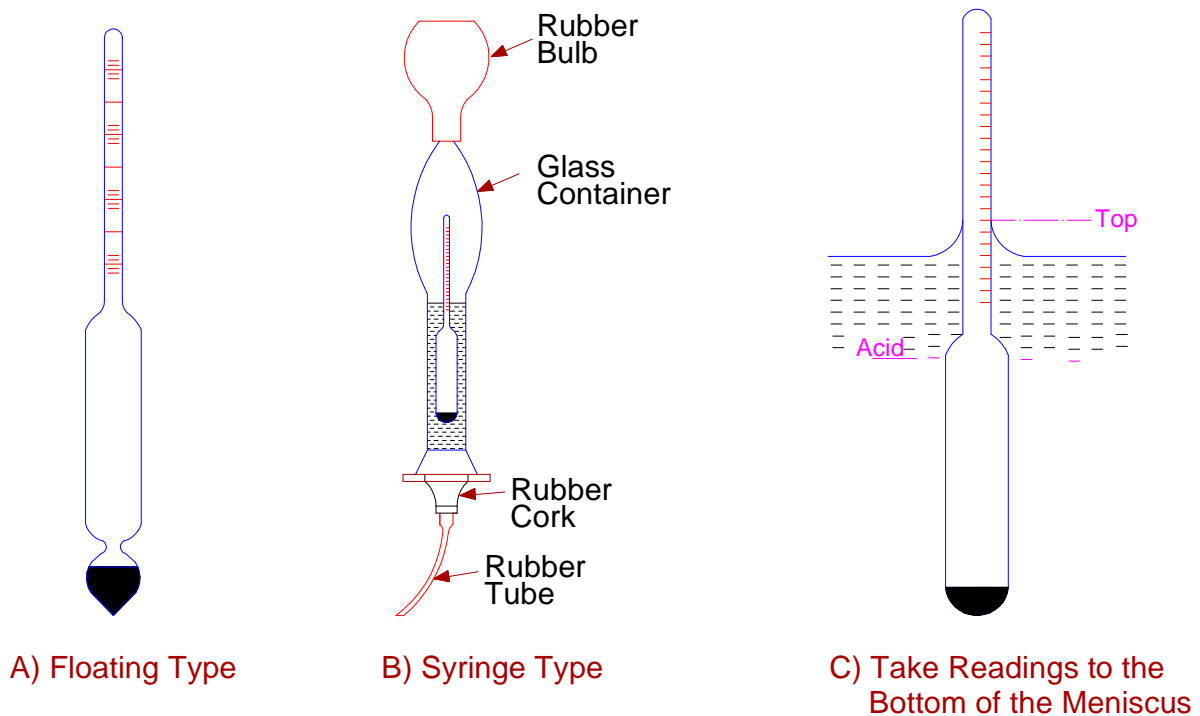

Fig: 1.4 HYDROMETER
- (a) The floating hydrometer, (Fig. 1.4.a), used with open type cells. It consists of a glass tube with a calibrated scale and a weighted bulb at the lower end. It is placed in the electrolyte of the cell, and sinks more or less into the solution depending on the specific gravity, which is read directly from the scale.
- (b) The syringe hydrometer, (Fig.1.4. b), used with enclosed type cells, and also with open type cells where the separation between plates is small. The hydrometer float is contained in the enlarged portion of a glass cylinder, which has a rubber tube at the bottom and a rubber bulb at the top by means of which acid is sucked in it from the cell under test. After the reading is taken, the acid is restored to the cell.
When taking hydrometer readings, the electrolyte clings to the stem of the hydrometer at the surface. This is called the meniscus. To avoid errors, always read to the bottom of the meniscus (Fig.1.4. c).